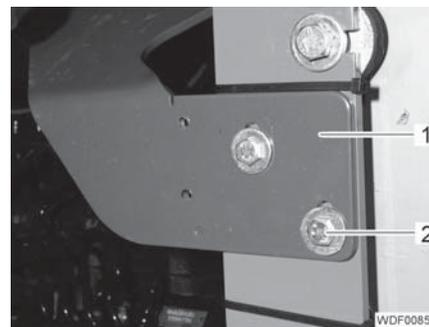

Fig. 11 Air filter holder attachment
- Mark the position of the air filter holder (Fig. 11,1) on the rear carriage.
- Unscrew the 2 screws (Fig. 11,2) and remove the holder.